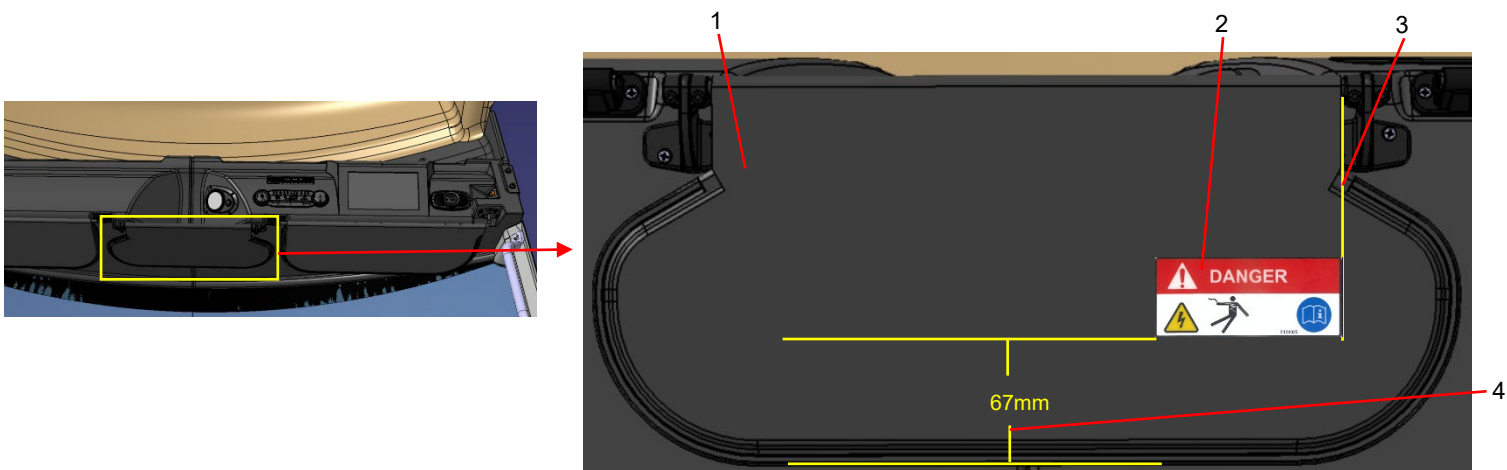

Figure 3. EV Danger Label Installation.
- 1) Locate the center sun visor (Figure 3, Item 1) in the vehicle.
- 2) Measure up approximately 67 mm (2.6 in.) (Figure 3, Item 4) vertically from the bottom edge of the sun visor (Figure 3, Item 1).
- 3) Alignment of the “EV Danger” label (Figure 3, Item 2) will be from the lowest edge of the center sun visor (Figure 3, Item 1) to the lowest edge of the “EV Danger” label (Figure 3, Item 2).
- 4) The “EV Danger” label (Figure 3, Item 2) will need to be affixed horizontally to align with the curbside edge (Figure 3, Item 3) of the center sun visor (Figure 3, Item 1).
- 5) Clean the center sun visor (Figure 3, Item 1) in the area to apply the “EV Danger” label (Figure 3, Item 2) with isopropyl alcohol prior to install.
- 6) Remove the adhesive backing from the “EV Danger” label (Figure 3, Item 2) and affix to the pre-determined location on the center sun visor (Figure 3, Item 1).